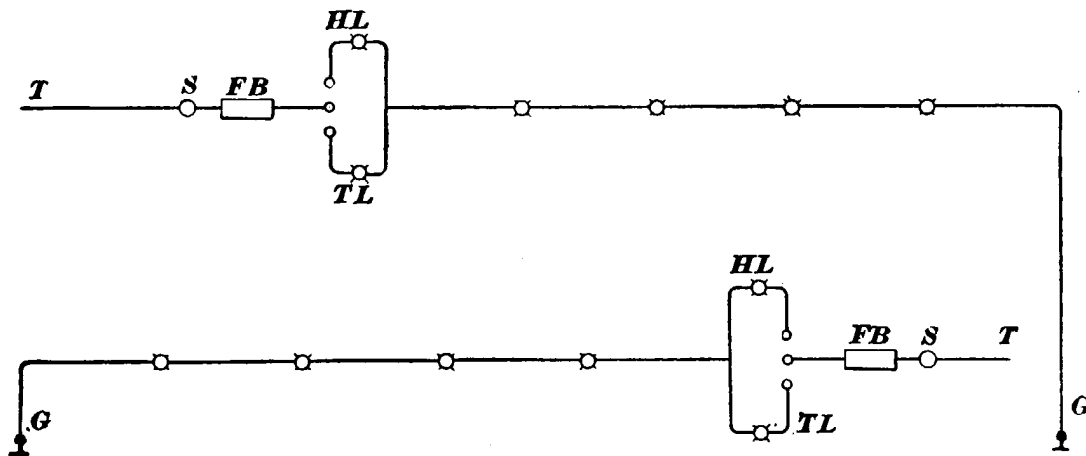

FIG. 51.
46. Fig. 51 is the wiring diagram for a double-circuit car that has eight lamps inside, two headlights, and two tail-lights. The Westinghouse type of switch is selected on all the diagrams given here, because it is so much easier to follow the path of the current through it. When the **U** plug is in the two top holes, the headlight burns; when it is in the two bottom ones, the headlight is cut out and the tail lamp